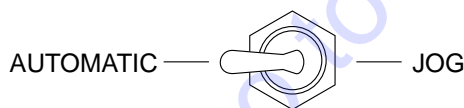

Figure 20. Cylinder Stroke Control Switch (Automatic)
2. Place the **cylinder stroke control switch** in the **AUTOMATIC** position (Figure 20).